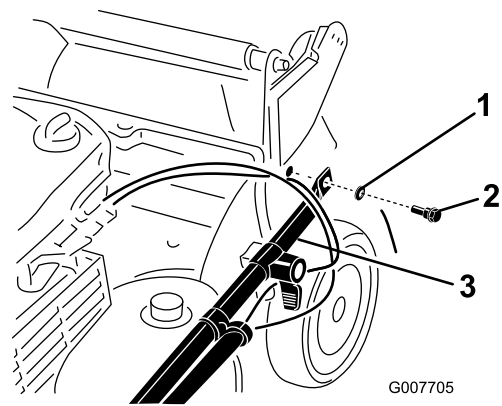

Figure 4
3. Attach the handle ends to the mower housing with 2 washers and 2 handle bolts (Figure 4), **but do not tighten the handle bolts.**
**Important:** Route the cables to the *outside* of the handle (Figure 4).